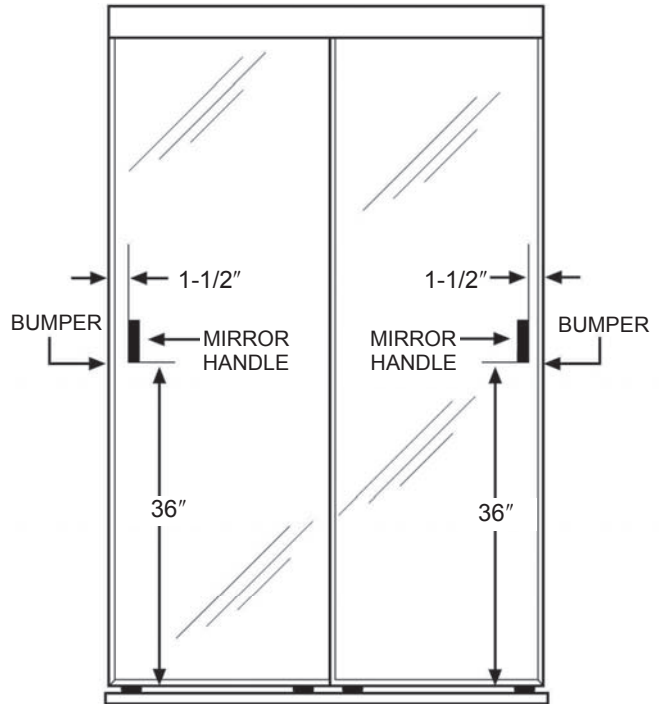

Figure 5
Peel paper off the back of the Clear Plastic Bumpers (#9) and place on the edge of the Mirrored Panel (#1) frame 36" up from the bottom. The Bumpers (#9) will cushion and protect the door and wall when you close the wardrobe doors (See Figure 5).
- A. Clean mirror in the area where the Mirror Handles (#8) will be applied. Peel paper off the back of the Mirror Handles (#8). Position each Mirror Handle (#8) 36" from the bottom of the Mirrored Panel (#1) and 1-1/2" from Side Mold (#12) on each Mirrored Panel (#1) (See Figure 5).